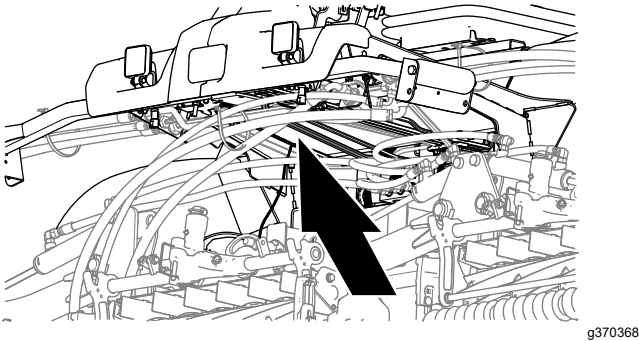
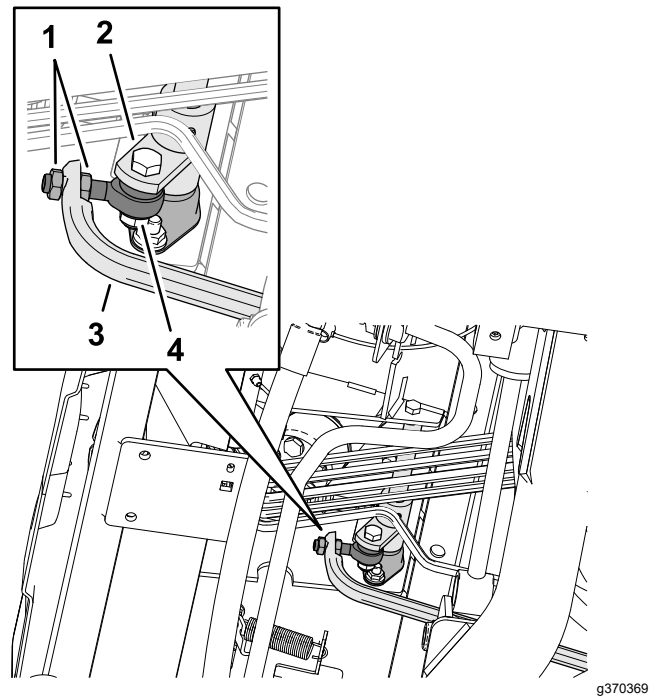

Figure 104
Figure 105
5. Adjust the jam nuts on the rod end to move the traction rod forward to eliminate forward creep or rearward to eliminate rearward creep (Figure 104 and Figure 105).